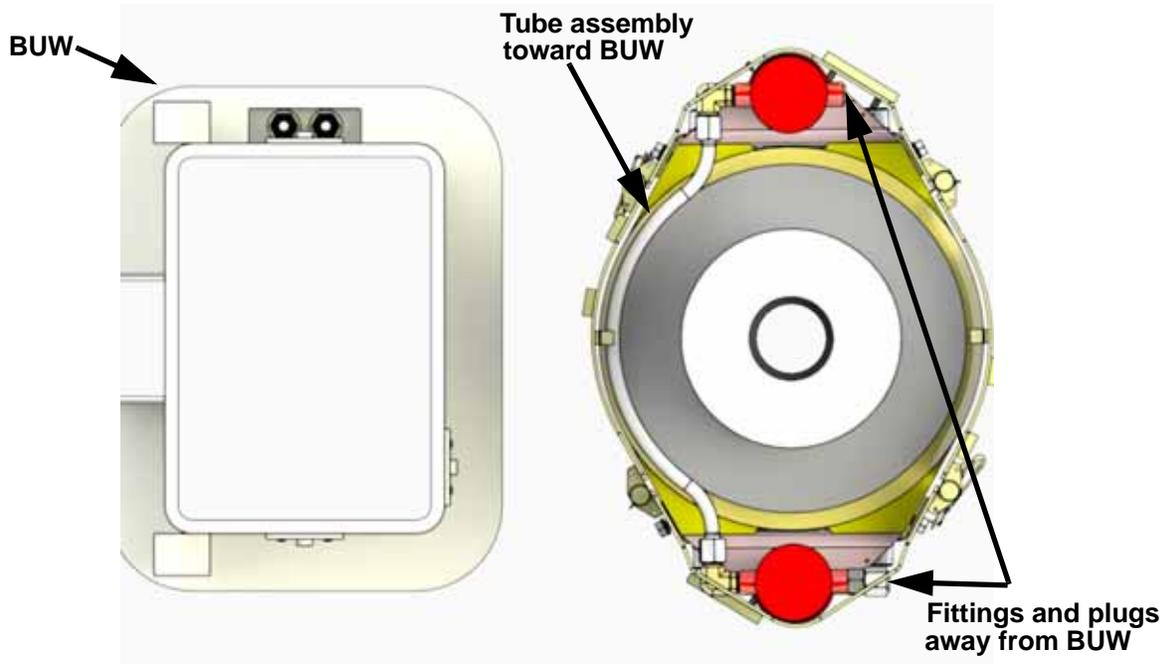

Figure 1: Top view, correct orientation.
1. Place the actuator in the correct orientation for installation. The hose fittings facing away from the BUW and the tube assembly toward the BUW. See Figure 1 on page 2.